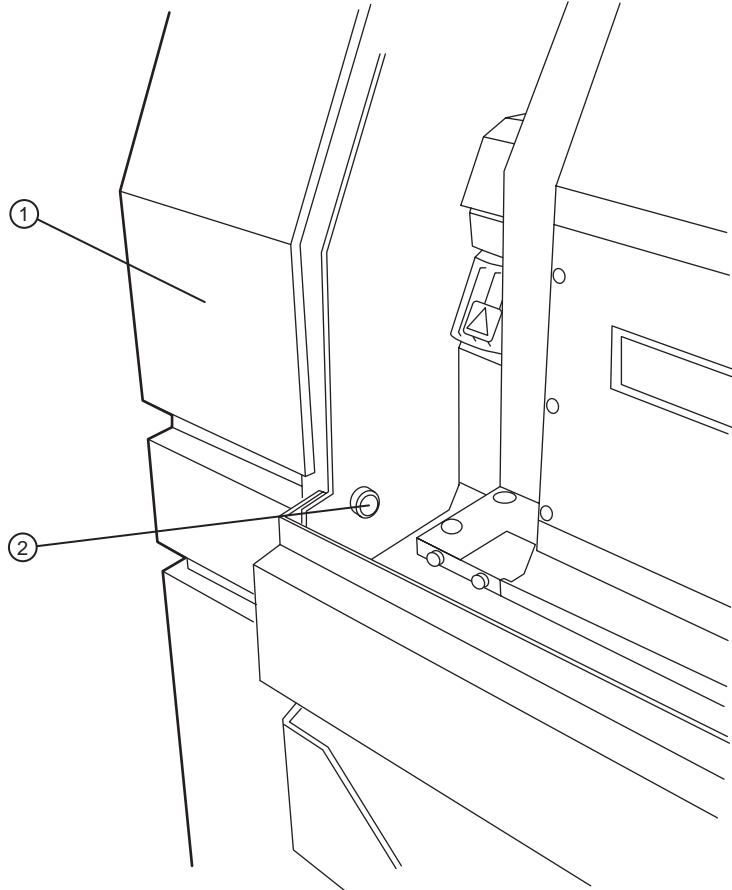

Figure 4-2 Thumb screw location.
2. Loosen the thumb screw located on the inside of the imager. Refer to Figure 4-2.